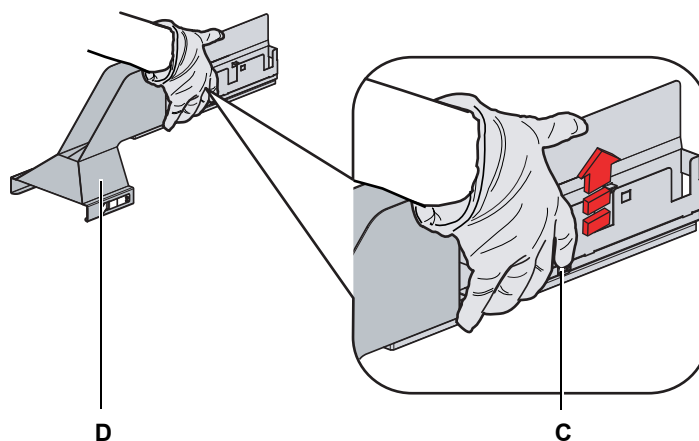

Fig. 7-15 Removing the DiTi waste and wash unit from the worktable
- 8 Pull and hold the quick release lever (C) Fig. 7-15 , 7-26.
- 9 Synchronously pull the wash unit (D) outwards and open the front access panel for until the wash unit (D) disengages from the worktable Fig. 7-15 , 7-26.
15 Pull and hold the quick release lever (C) to reinstall the DiTi waste wash unit onto the worktable Fig. 7-15 , 7-26.